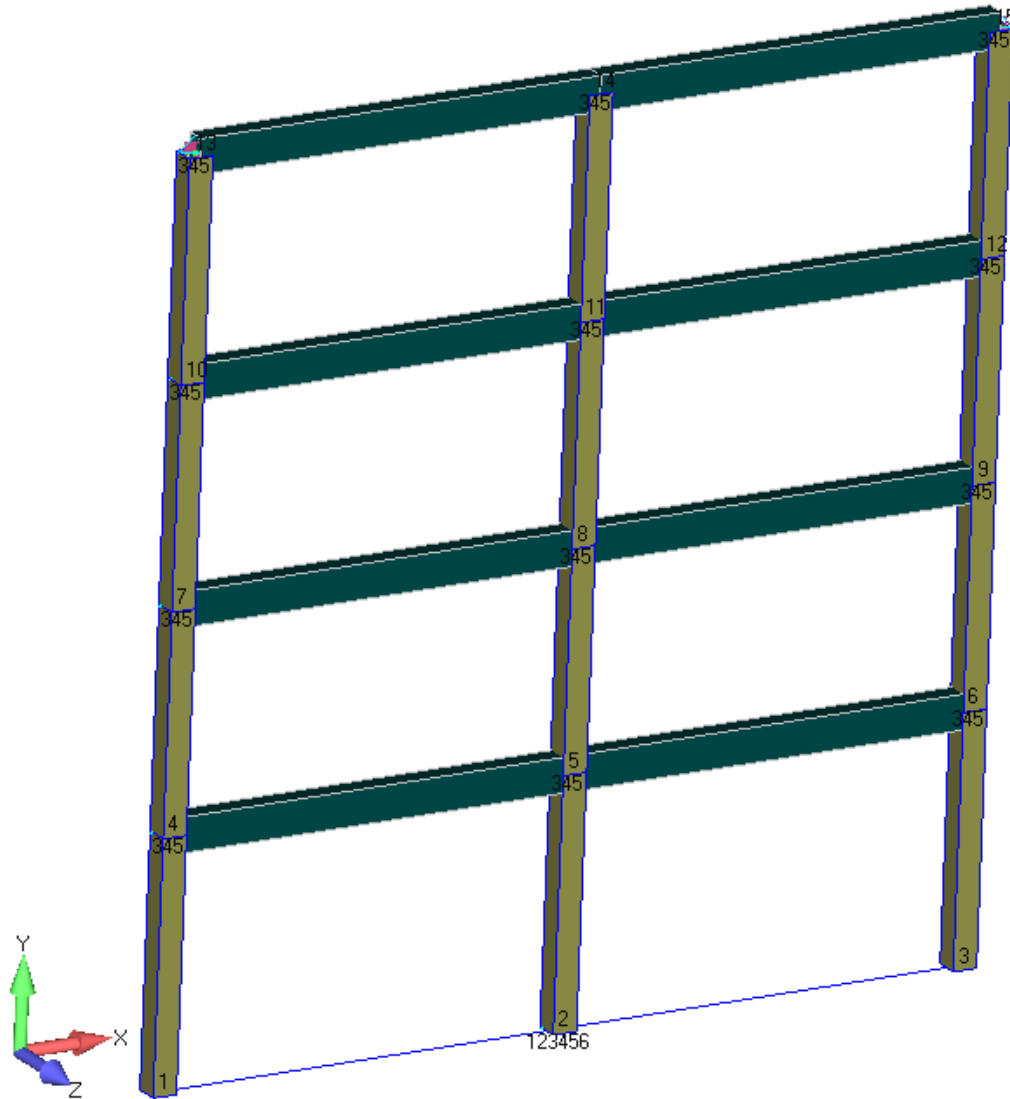
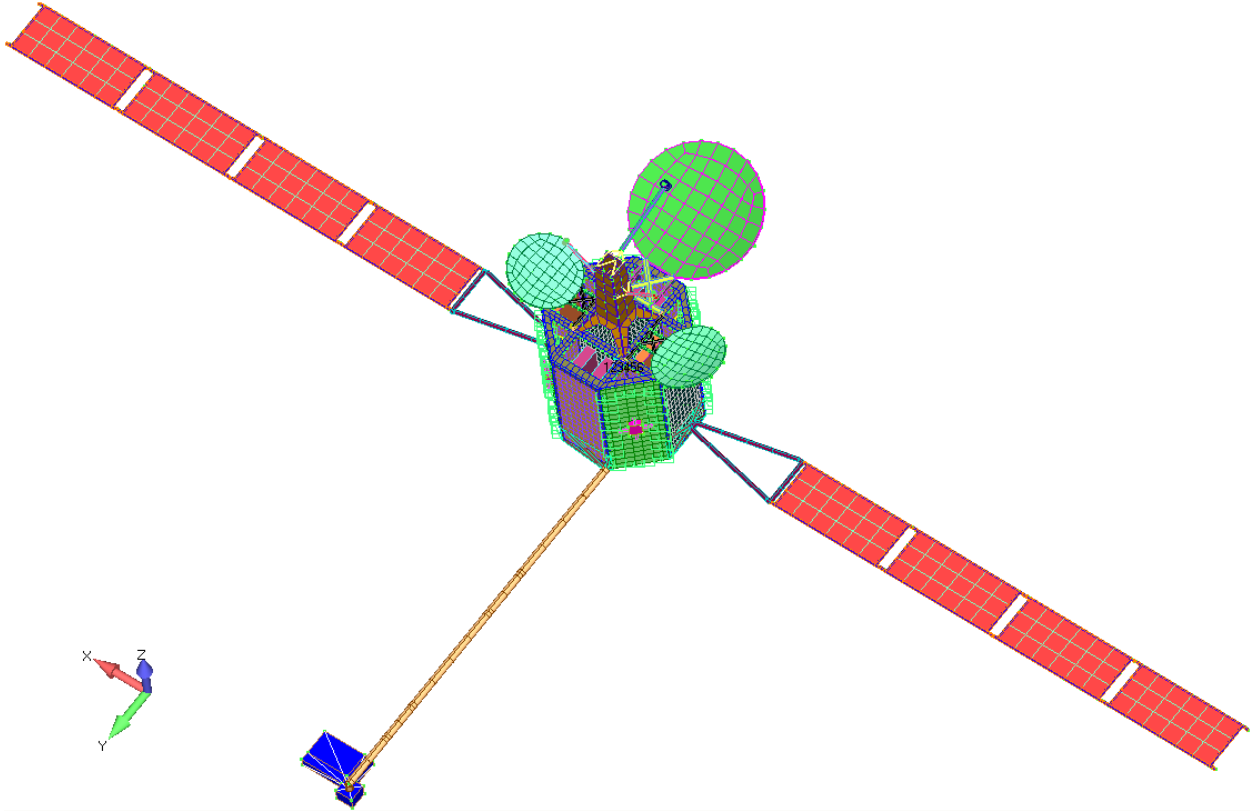

Figure 4-3. Two-dimensional frame model.
Figure 4-6. Isat model in deployed configuration.
The two-dimensional frame model (Figure 4-3) consists of an array of bar elements three columns wide and four rows high. Concentrated mass elements are located at each intersection of bar elements while the bars themselves are massless, thus making this a lumped mass approximation. The bottom node of each outer column is connected by a rigid element to the bottom node of the center column, which is fixed in all six DOF. Enforced motion in X translation is enabled at this node. Out-of-plane (Z) translation and X and Y rotation are constrained at all other nodes.
The deployed configuration "Isat_Dploy_Sm.dat" (Figure 4-6) is a free-free model with the launcher adapter removed and the solar panels, antenna dishes, and instrument package deployed. This model includes residual vectors that can improve stress calculations for loads applied at the reaction control system (RCS) thrusters.
You may wish to adjust the view settings in Femap at this point. For example, in the figures showing the frame and Isat models (Figure 4-3 through Figure 4-6), we set the background color to solid white; set the color of all labels and postprocessing titles to black; had Femap assign a different color to each physical property in the model and then set the element color mode to use physical property colors; and set the element orientation/shape option to show cross sections, which also shows shell element thickness.
1. In Femap, import the frame model "frame01_modes.dat" (Figure 4-3). Save the Femap model file as "frame.modfem."